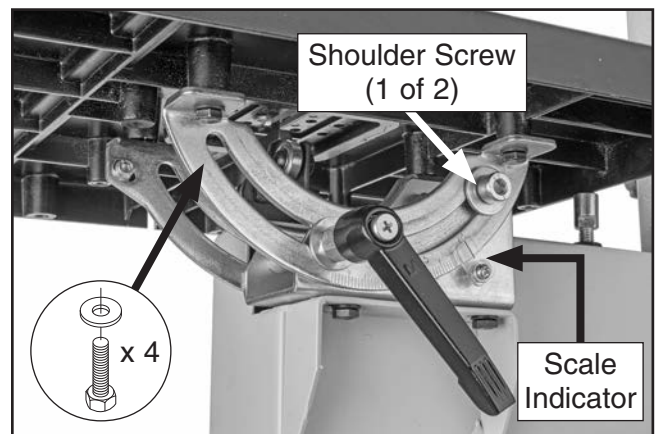

Figure 15. Table attached to trunnions.
- Remove (4) pre-installed M6-1 x 10 hex bolts and 6mm flat washers from base of table, and loosen (2) shoulder screws (see **Figure 15**) securing trunnions to trunnion bracket.
- Slide table past saw blade through table slot, and secure table to trunnions with fasteners removed in **Step 7** (see **Figure 15**).
11. Loosen screw on scale indicator (see **Figure 15** on **Page 17**), set indicator to "0", and tighten screw.